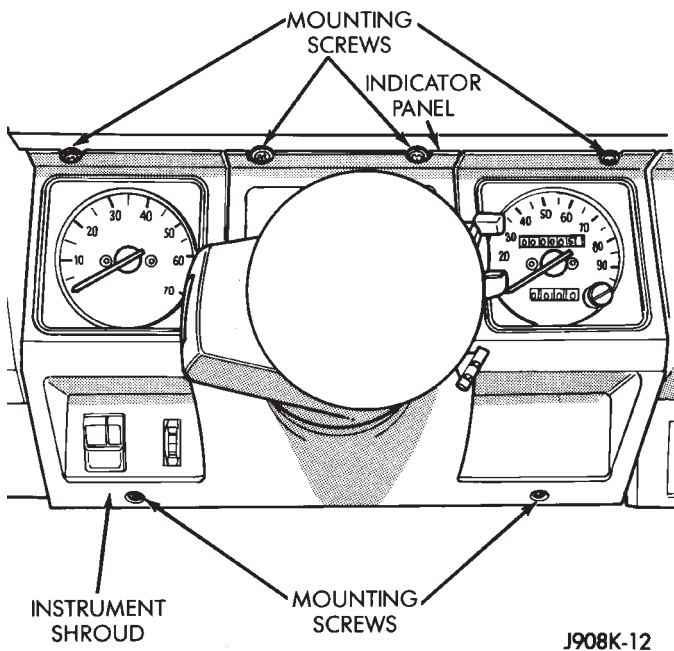

Fig. 3 Instrument Bezel Remove/Install—YJ
(1) Remove 6 bezel screws (Fig. 3).